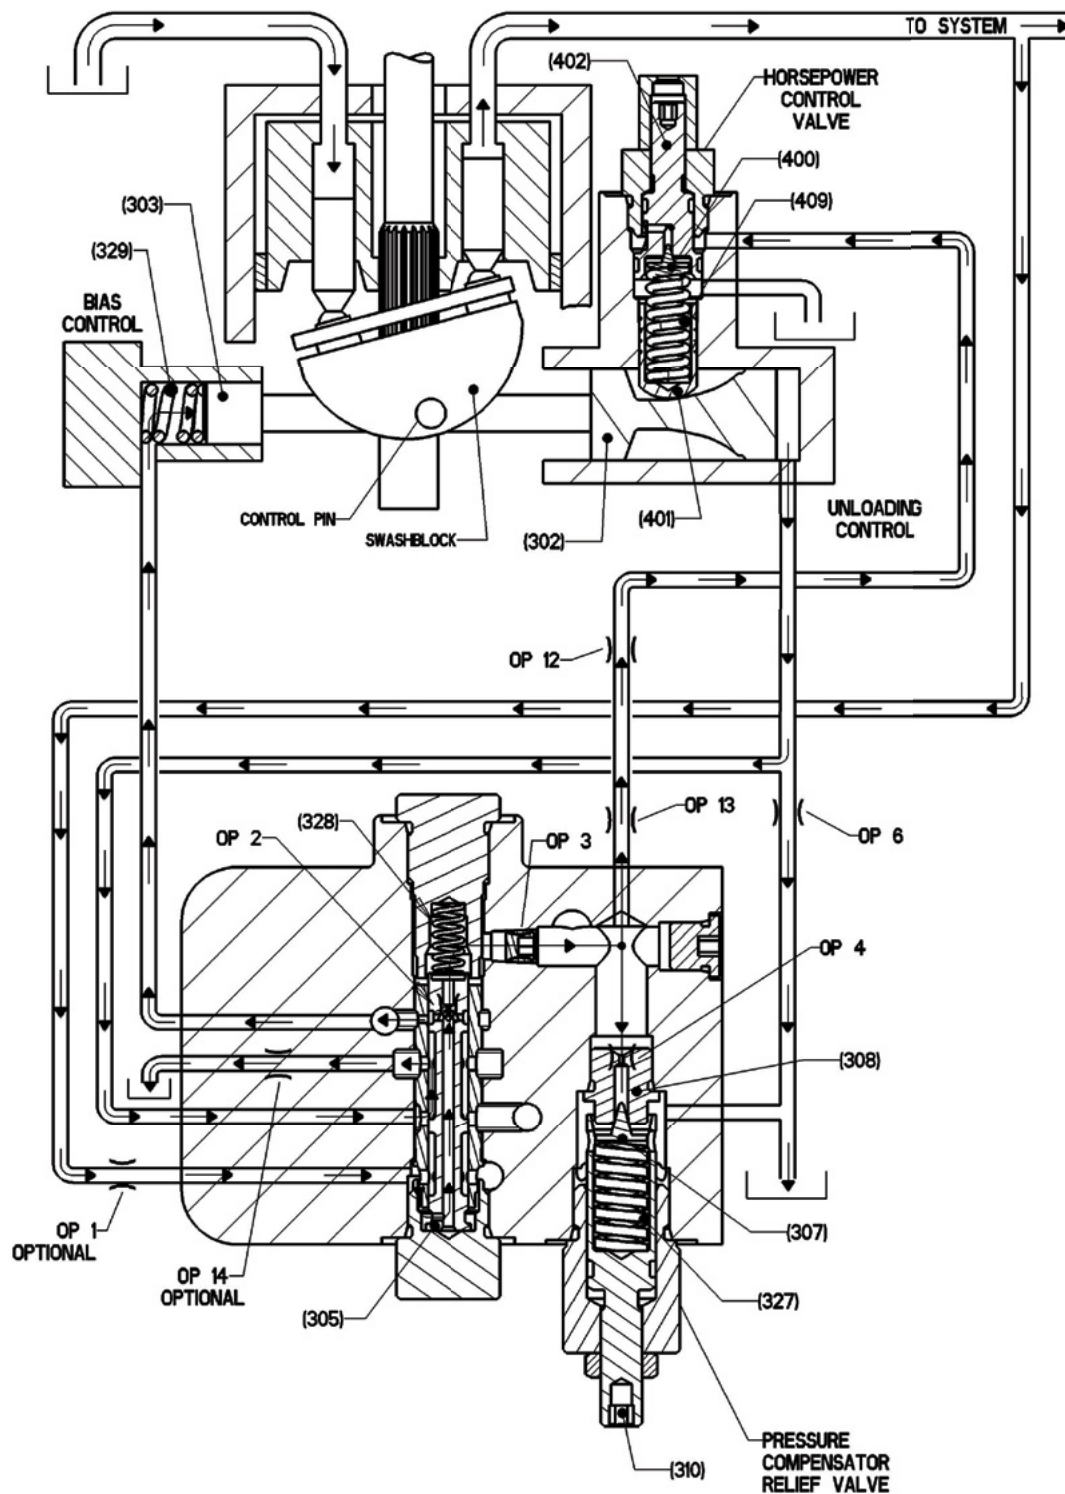

Figure 4. Raising Pressure - Loading
If the system pressure drops below preset compensating pressure, the relief valve poppet (307) seats and forces on the pressure compensating spool (305) are balanced, the pilot control valve spring (328) returns the spool to the original position (Figure 4), swashblock position shifts, and the pump increases delivery until the relief valve screw (310) preset pressure is reached again.